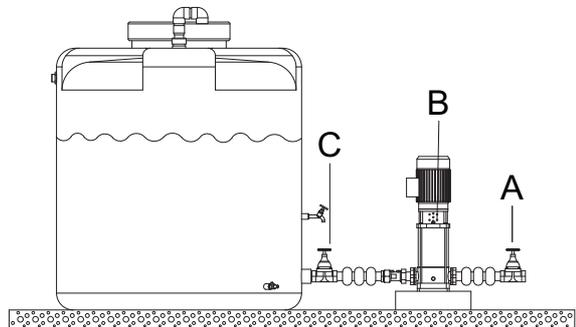

Figure 6: Closed circuit
7.3.1 In a open or closed circuit with sufficient supply pressure (see figure 6 Closed circuit)